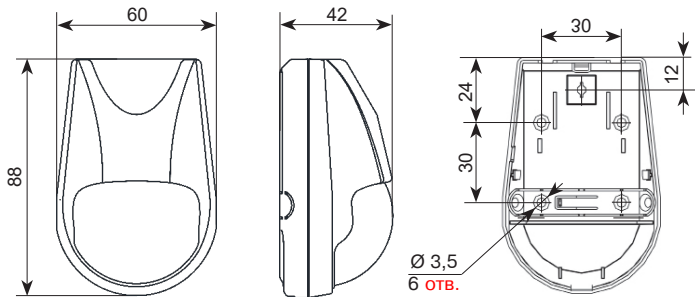

Figure 4 - Swivel Bracket Components
1. After Detector fastening on the swivel bracket, turn the Detector case in vertical plane in conformity with chosen installation height with respect to the distance (L) from the wall to the edge of the base with the put off cover (Figure 4, Table 4).